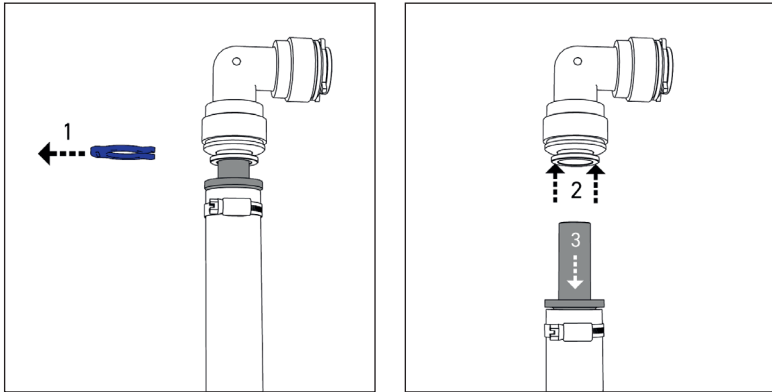

Figure 22
In winter and at sub-zero temperatures, ensure that the water in the UV unit and in the entire water system does not freeze. If this cannot be guaranteed, open all water consumers/fittings and let the pump run until no more water comes out of the fittings. For safety, now remove the hose on the water inlet side to the UV unit so that any water residues can drain out (see Figure 22 or **4.3.4 Releasing Push-In Connectors (p.48)**). Place a towel or container under the UV unit for this purpose.
- Remove the water lines from the water connections of the UV unit (Figure 22). First remove the safety ring (1). Push back the retaining element with your fingers or using a release aid (e.g., safety ring) and hold it (2). The inserted pipe/hose can now be removed (3).